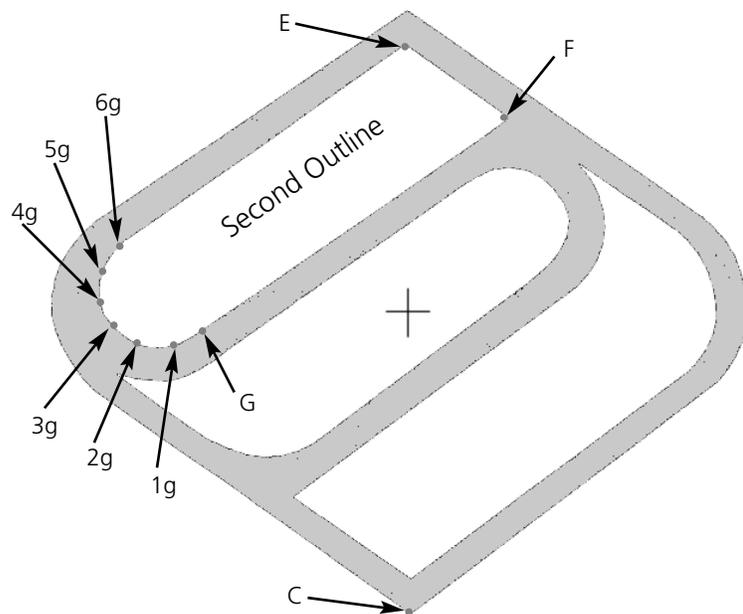

Figure 5-67
- Enter a Mk1 at point E in Figure 5-67. This is the upper corner point of the top section of the Saurer logo.